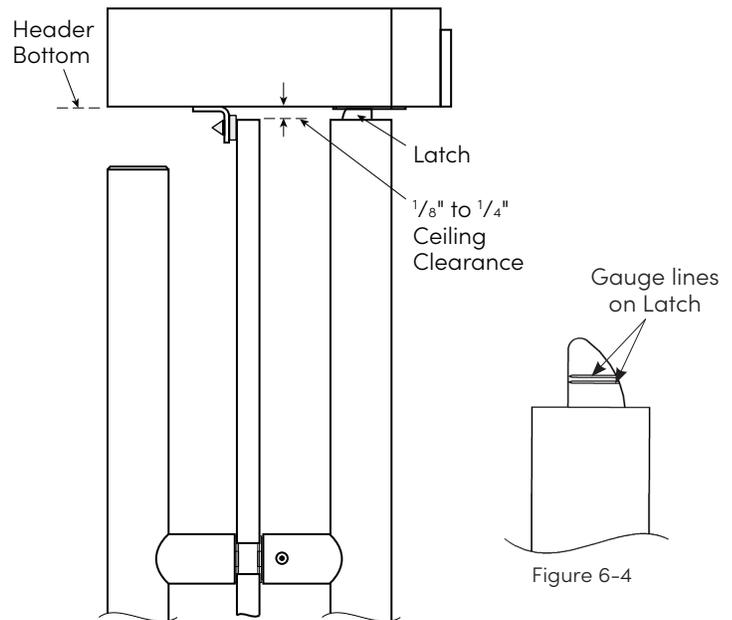

Figure 6-3
- The Latch can be adjusted up and down. Figure 6-3 shows the maximum and the minimum dimensions for the Strike location.